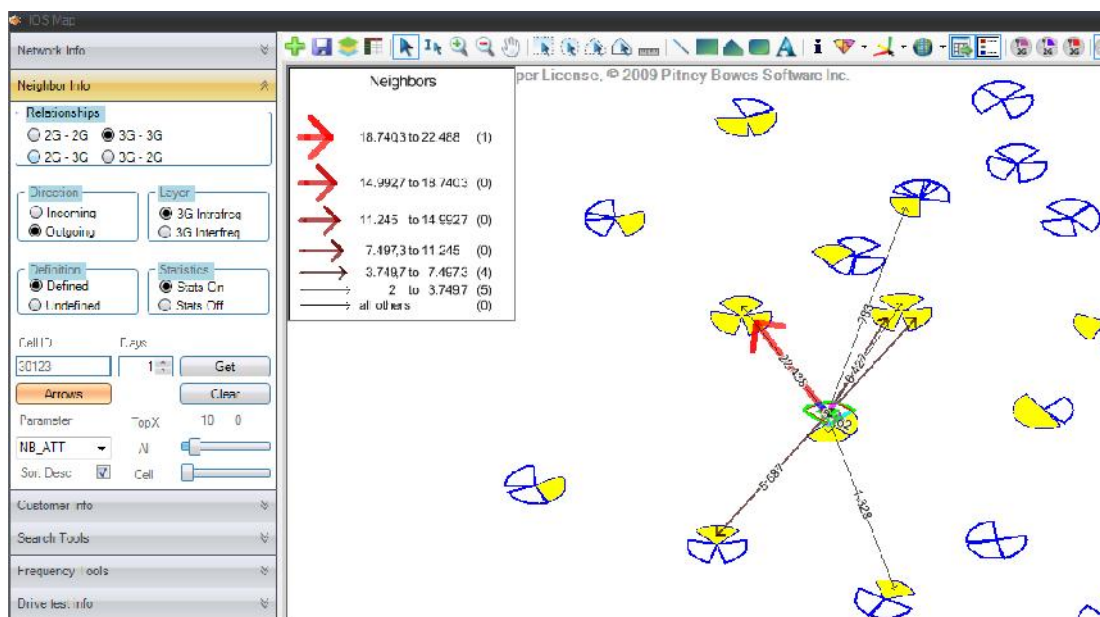

Figure 12 Neighbor Info - Filter Sample
- Now press Calc to produce the results table as shown in Figure 12.